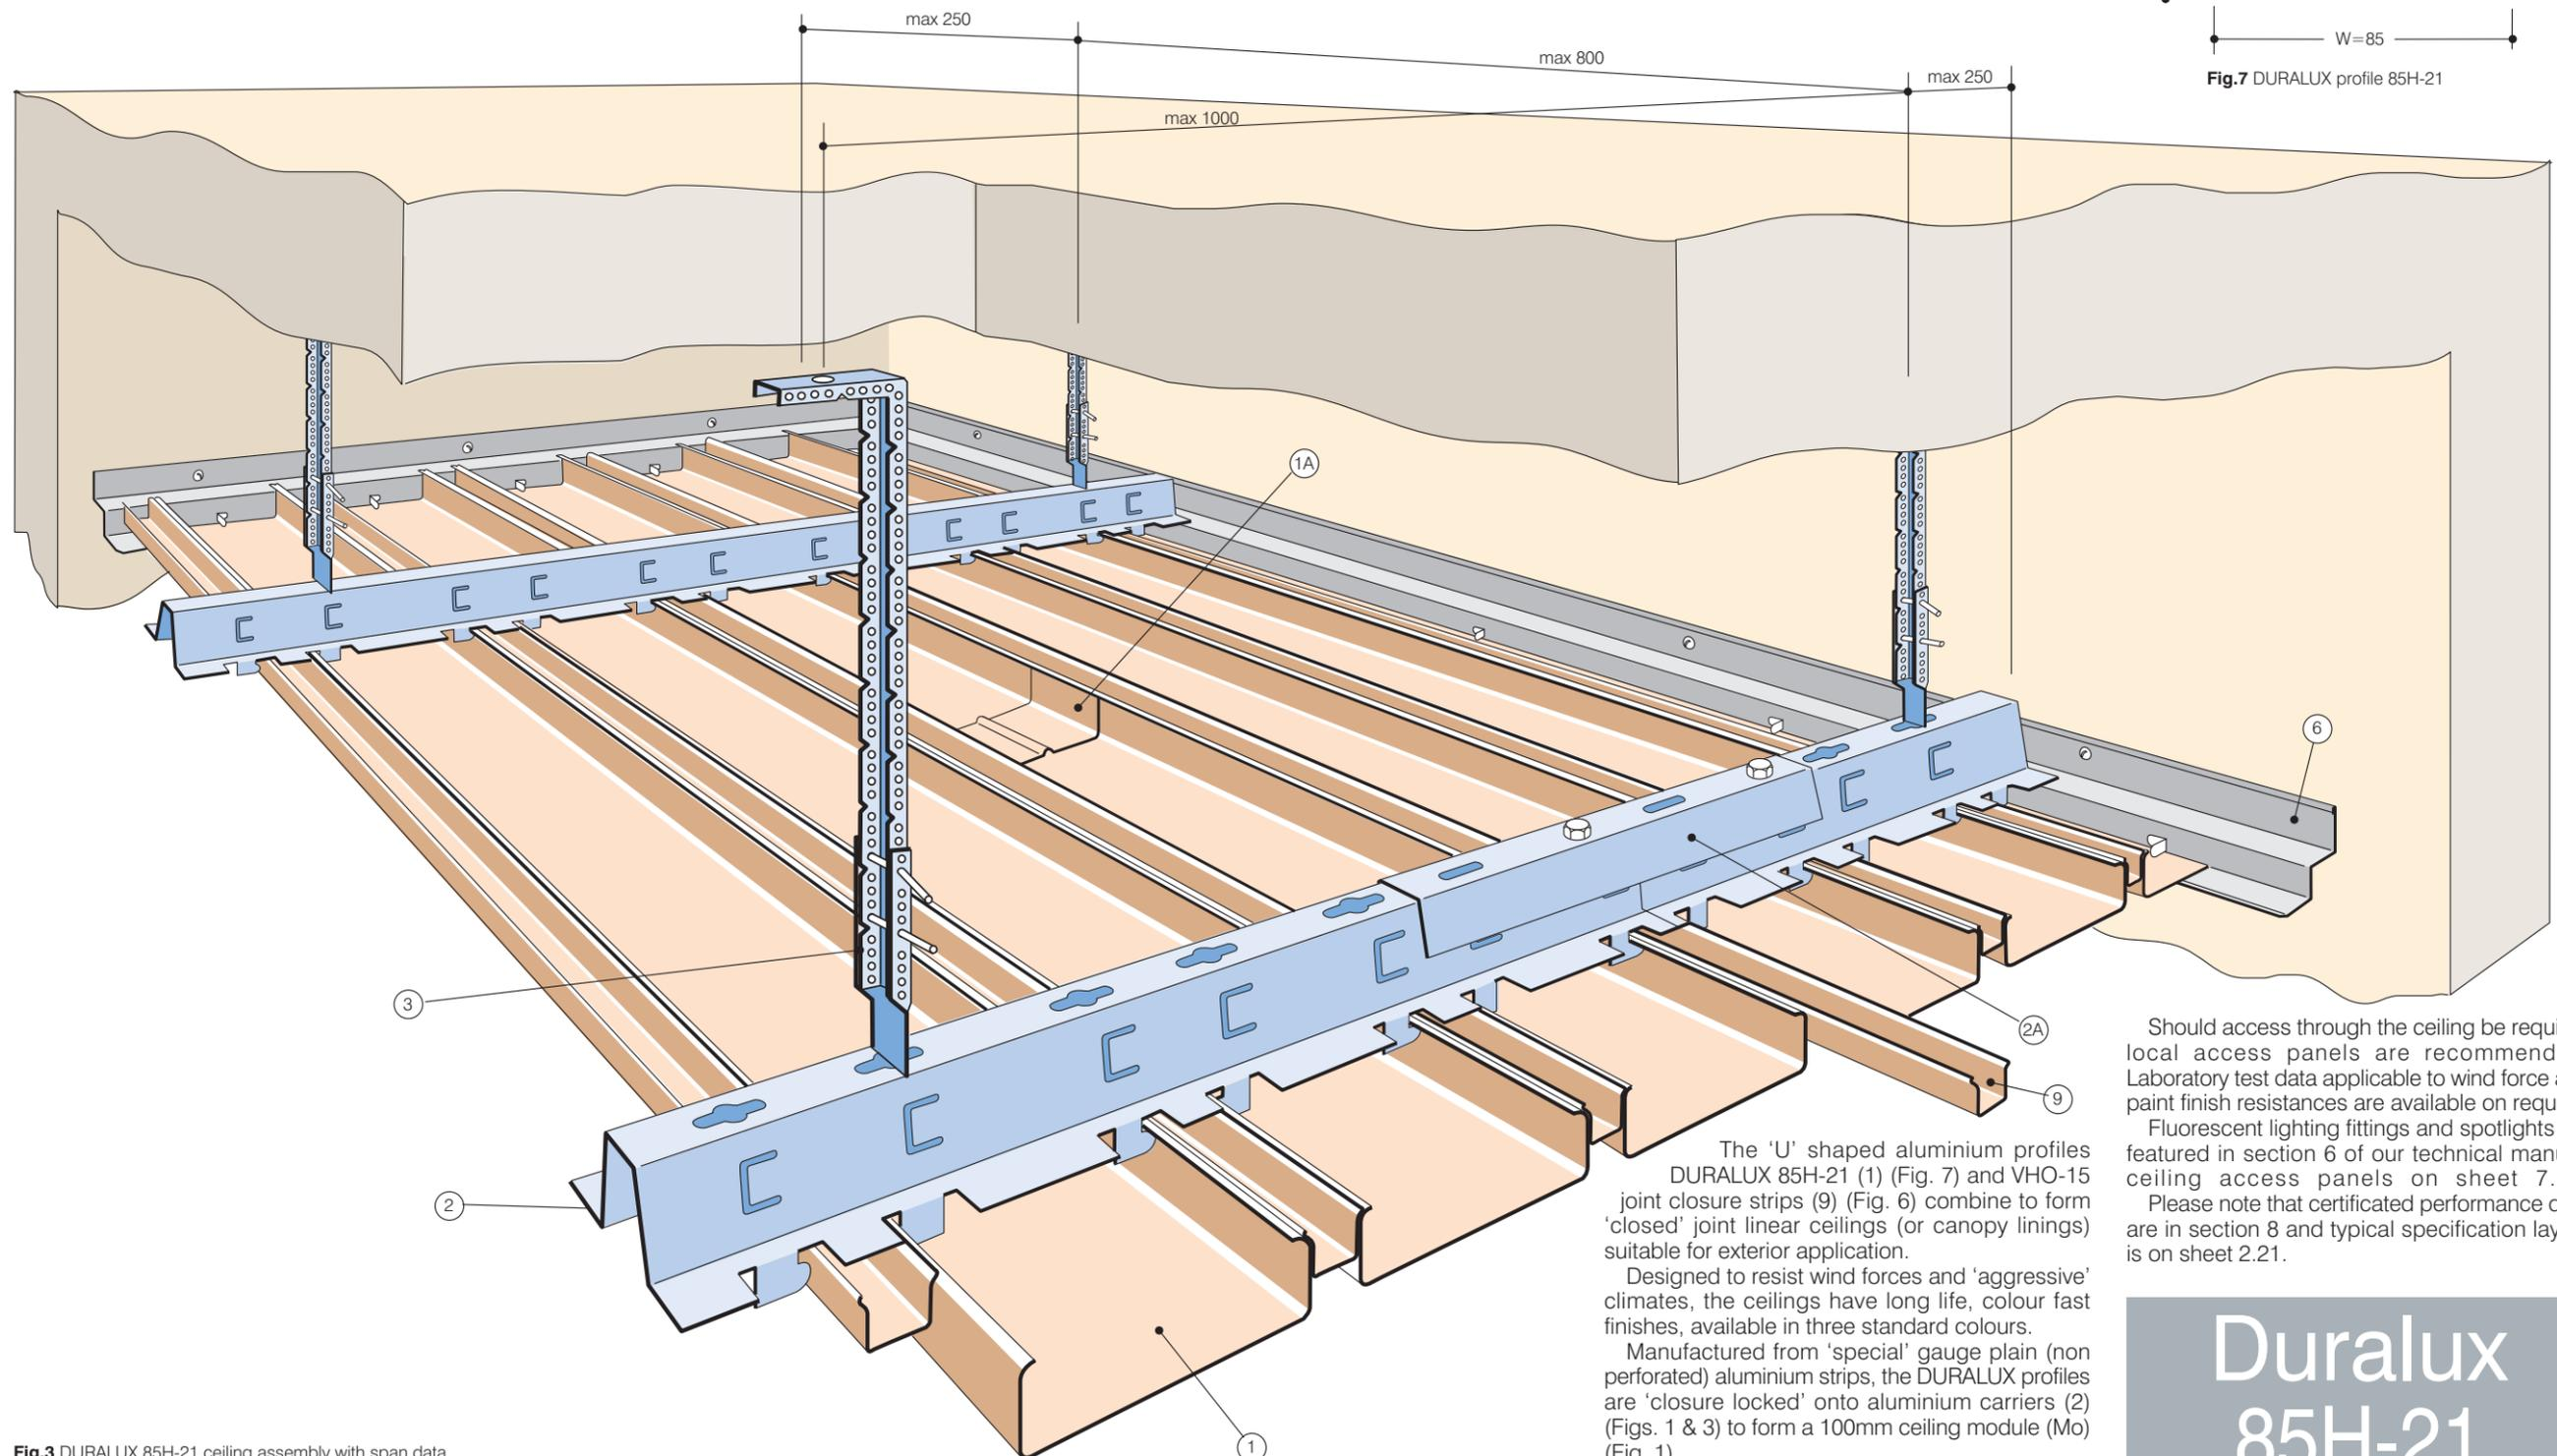

Fig.3 DURALUX 85H-21 ceiling assembly with span data
Suspended from the structural soffit by rigid adjustable hangers (3) (Fig. 3) Omega 85 carriers (2) (Figs. 1, 2 & 3) contain preformed tongues in their base over which DURALUX 85H-21 (1) profiles are clipped to make a secure attachment.